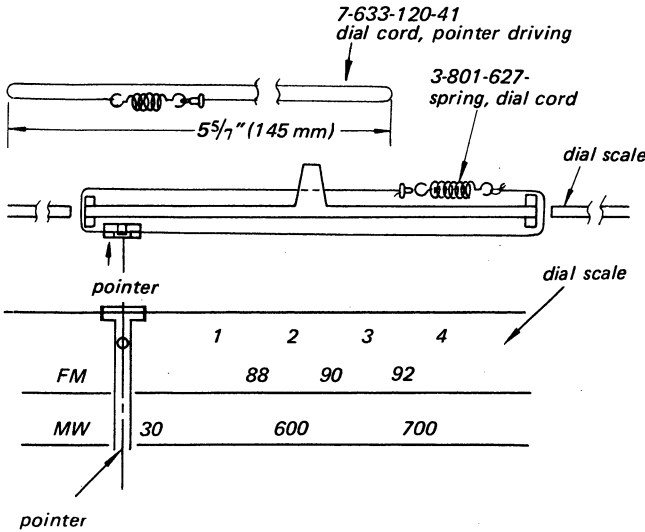

Fig. 2-24. Pointer sliding cord stringing
- 3. Attach the pointer at 0 on the scale as shown in Fig. 2-24.